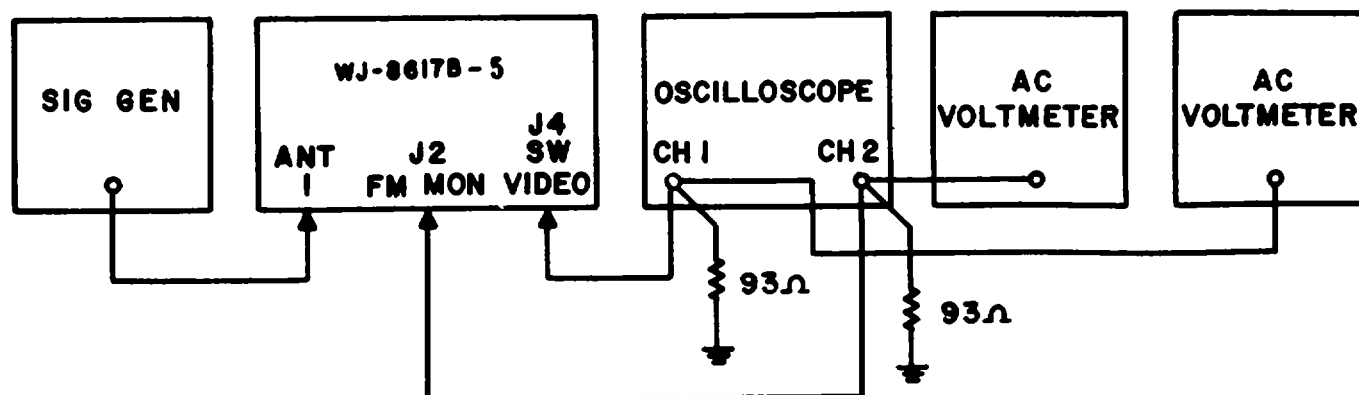

Figure 4-27. Audio/Video/COR Alignment, Equipment Connections
2. Connect the test equipment as illustrated in **Figure 4-27**.